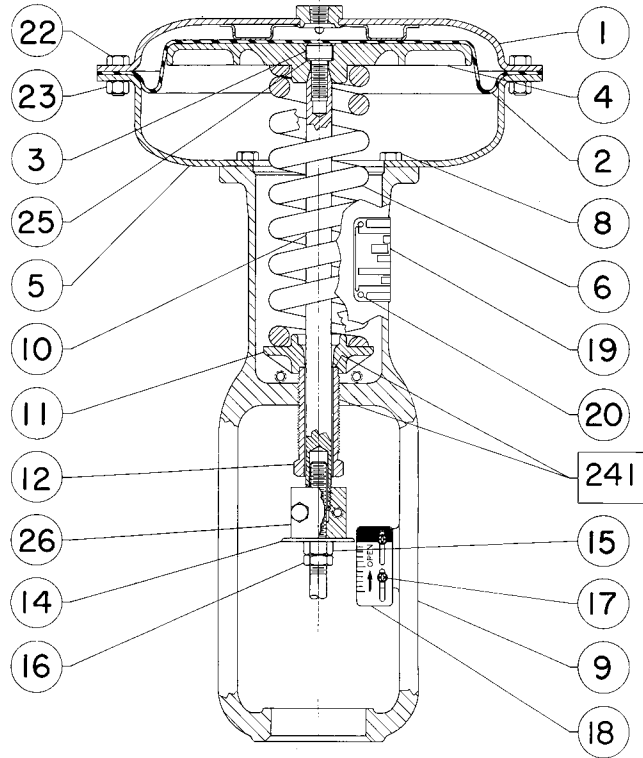

Figure 6. Type 657 Actuator Sizes 30 through 60
1. Remove the travel stop cap (key 187) and loosen the travel stop nut (key 137). Rotate the travel stop stem (key 133) counter-clockwise until the travel stop assembly is no longer compressing the spring.
2. Remove the upper diaphragm casing (key 1, figures 6, 7, or 8) as outlined in the Maintenance section.
5. **For sizes 30 through 60**, drive out the groove pin (key 140), and slide the pusher plate (key 135) off the travel stop stem (key 133).
1. Remove the travel stop cap (key 187). Unscrew the jam nut and stop nut (keys 189 and 54) until the travel stop assembly is no longer compressing the spring. Remove the jam nut and stop nut.
5. Loosen the stop nut (key 54), then unscrew the travel stop stem (key 133) out of the actuator stem. The lower diaphragm plate can now be removed.
1. Reassemble the up or down travel stop in the reverse order of the disassembly steps, being sure to apply lubricant as shown by the lubrication boxes (key 241) in figures 6, 7, 8, 14, 15, or 16, as appropriate.
### Actuator Assembly (figures 6, 7, or 8)